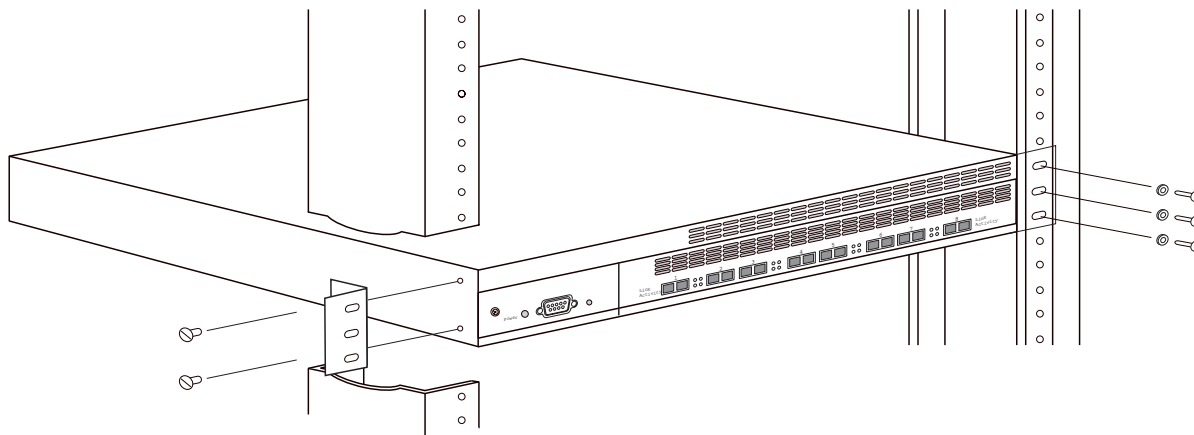

Figure 2.8 Installing an HP 6208M-SX or HP 6308M-SX in a rack mount
2. Attach the mounting brackets to the sides of the device as illustrated in Step 2 of Figure 2.8.
3. Attach the device in the rack as illustrated in Step 3 of Figure 2.8.